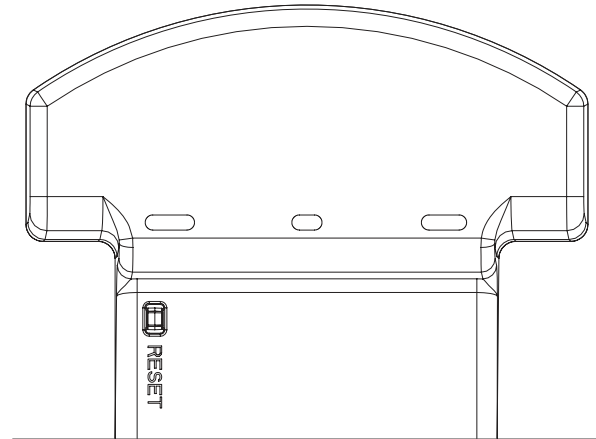

FIG.28
1. Press the button on the receiver until the receiver beeps (**FIG. 28**).